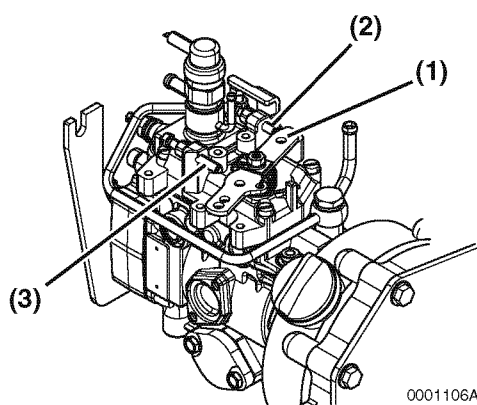

Figure 6
The governor lever (**Figure 6, (1)**) controls the engine speed. The lever is linked to the engine speed control device in the driven machine.
The low idle speed limit screw (**Figure 6, (2)**) sets engine speed while it is idling.
The high idle speed limit screw (**Figure 6, (3)**) restricts the maximum engine speed when the engine is operated without a load.